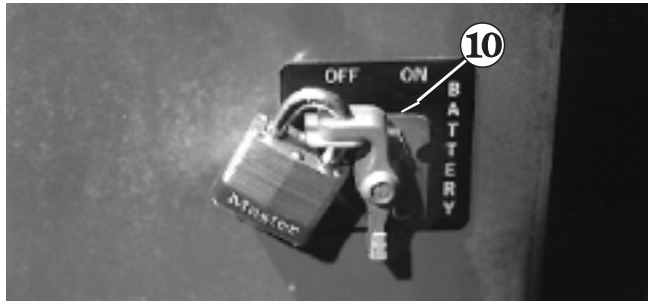

Figure 10.8
2. Set the **Battery** switch ❹ (see Figure 10.8) to OFF and padlock it.